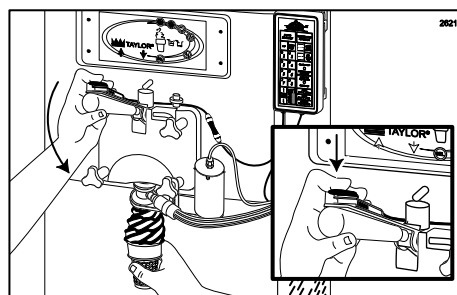

Figure 173
- Press the Spigot Switch lever against the draw-handle as you pull the draw-handle down to dispense product. (See Figure 173.)